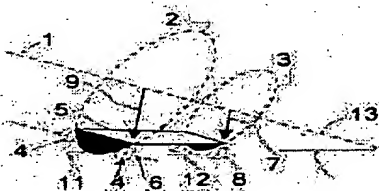

FIG. 1
Here is the solution for varying the rear bearing diameter (item 3 of fig. 1): Now one platform can work at all latitudes with no adjustments